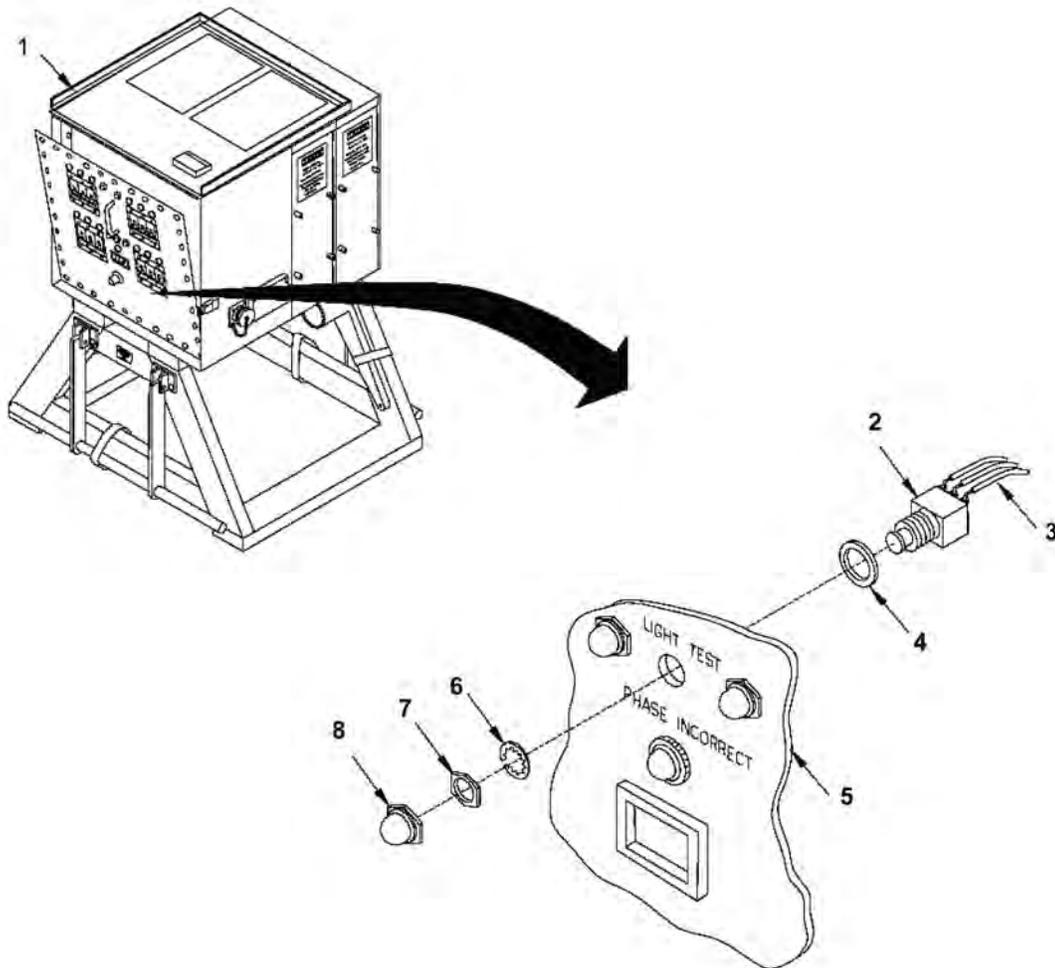

Figure 1. Push-Button Switch, LIGHT TEST.
6. Perform procedures in WP 0027 to secure circuit breaker panel (Figure 1, Item 5).
7. To gain access to rear of circuit breaker panel (Figure 1, Item 5), perform steps contained in WP 0027.
8. Secure push-button switch (Figure 1, Item 2) to circuit breaker panel (Figure 1, Item 5) by positioning it through rear of panel and installing one non-rotating washer (Figure 1, Item 4) so the washer fits into slot on rear of panel. Install one lock washer (Figure 1, Item 6) and one nut (Figure 1, Item 7). Secure nut (Figure 1, Item 7) using a 9/16 inch deep well socket.
9. Apply heat shrink to wire prior to soldering. Solder and untag all wires (Figure 1, Item 3) connected to rear of switch. On front of circuit breaker panel (Figure 1, Item 5), install switch boot (Figure 1, Item 8) on switch.
10. Secure circuit breaker panel (Figure 1, Item 5) by performing steps contained in WP 0027.
11. Close and secure circuit breaker access cover (Figure 1, Item 1).